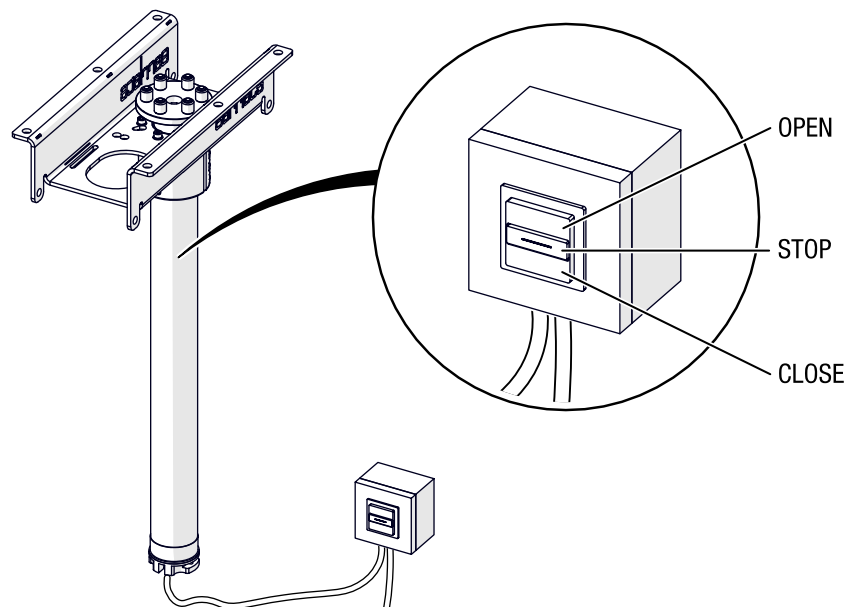

Fig. 108: Tubular motor BT-R – Operation (wall switch layout may vary)
1. Press the 'OPEN' button (or 'LEFT') to open the curtain or move the scenery material (see Fig. 108).
2. Press the 'STOP' button to stop the travel operation (see Fig. 108).
3. Press the 'CLOSE' button (or 'RIGHT') to close the curtain or move the scenery material (see Fig. 108).